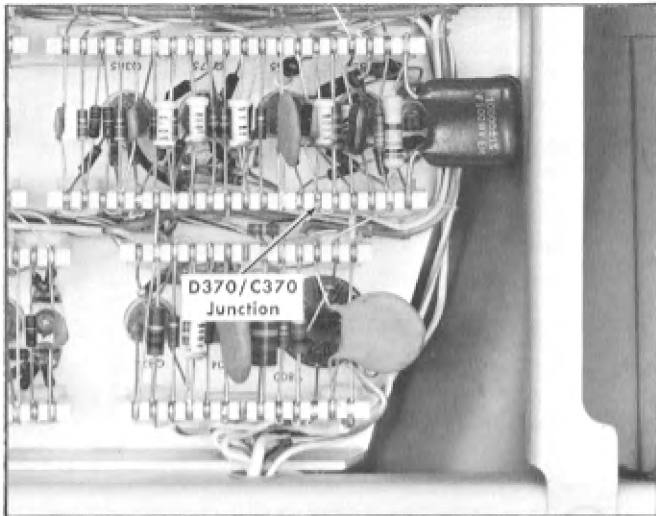

Fig. 6-23. Location of D370/C370 junction.
- e. Connect the 10 \times probe from the vertical input connector to the junction of D370 and C370 (see Fig. 6-23).